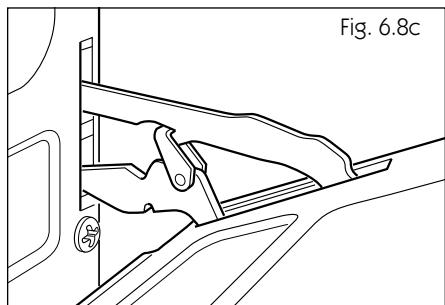

Fig. 6.8c
- Lift the oven door slightly. The notch on the bottom of the hinge will disengage (fig. 6.8c).